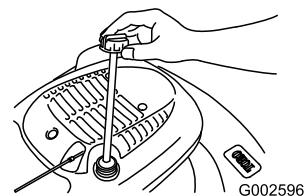

Figure 29
2. Retirez la jauge (Figure 29).